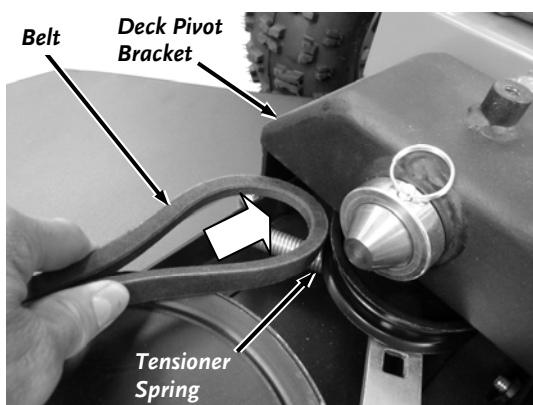

Figure 5
4. Insert the belt over the Tensioner Spring and through the inside of the Deck Pivot Bracket (**Figure 5**).